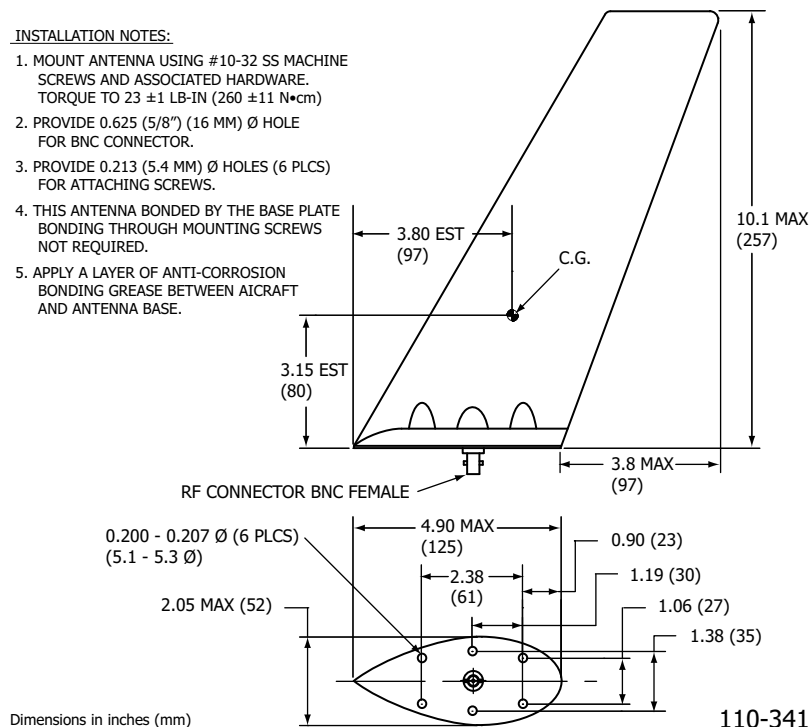

Figure 17. Blade Antennas 110-340 and 110-341 Outlines and Dimensions
- (1) Install a doubler plate if necessary to meet rigidity requirements. A 20 lb. (9.1 kg) force applied to the antenna in all directions should not cause an appreciable distortion in the aircraft skin.
- (2) Install a ground plane if necessary. In certain applications, particularly those where antennas are installed on composite, fabric, or wood airframes, a ground plane is required.
- (3) Drill the antenna mounting holes and a coax cable connector hole referring to the appropriate antenna illustration for hole patterns and hole sizes.
- (a) See "Figure 16. Rod Antenna 110-338 and Whip Antenna 110-343 Outlines and Dimensions", on page 61 and "Figure 17. Blade Antennas 110-340 and 110-341 Outlines and Dimensions", on page 62.
- (4) Mount the antenna referring to the appropriate antenna illustration for hardware requirements, torque, and other applicable installation requirements.
- (5) A coax cable, 6 feet (1.8 m) long, is provided as part of the ELT kit.